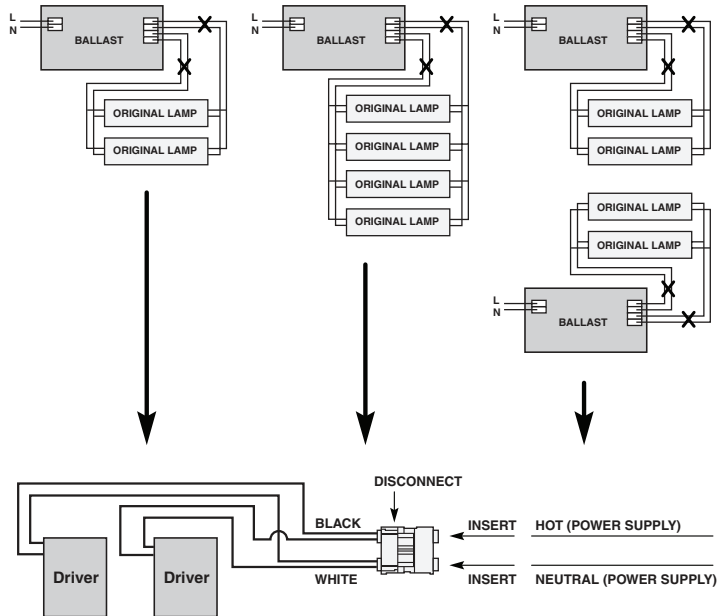

Figure 5.0
3. Attach liner label to the empty fixture in a visible area (see Figure 5.0).
4. Install disconnect free end to luminaire power supply leads. Hot (+) lead to black port. White (-) neutral to other port (See Figure 5.0).